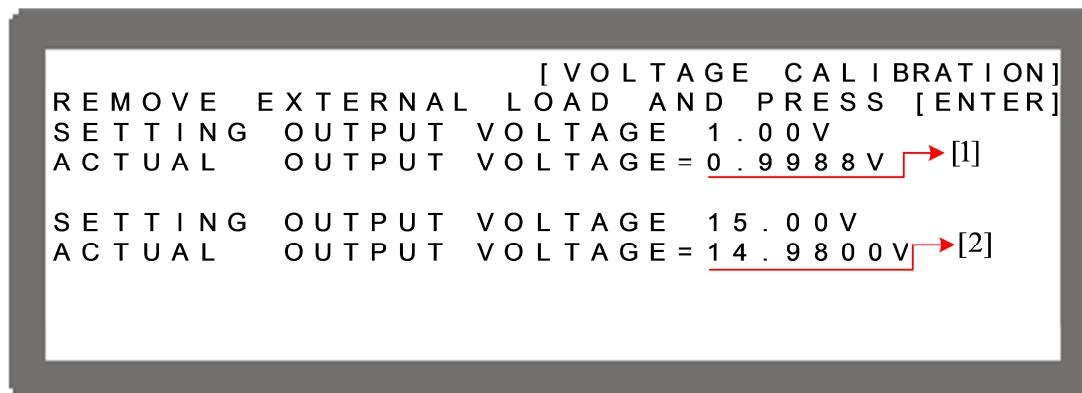

Figure 3-100
5. The first test is the low voltage range calibration (16V). The instrument will set the output voltage to 1.00V and the cursor will stop at position [1] as shown in Figure 3-100. Enter the voltage measured by the DVM (enter 4 digits after the decimal point) and press “” to confirm.
6. Press “” again to test the second low voltage range calibration point. The instrument will set the output voltage to 15.00V and the cursor stops at position [2] as shown in Figure 3-100. Enter the voltage measured by the DVM (enter 4 digits after the decimal point) and press “” to confirm.
2. Remove the output load before performing the voltage calibration. The LCD panel will display the text shown in Figure 3-100 and once the load is disconnected, press “” to start calibration.